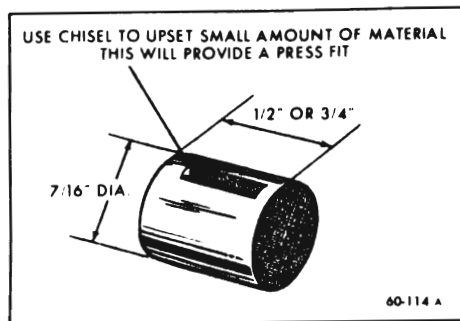

Figure 60-260--Harmonic Balancer
e. Cut a piece of 7/16" drill rod approximately 1/2" long. Use a chisel, upset a small amount of material on the side of the piece of drill rod. See Figure 60-260.